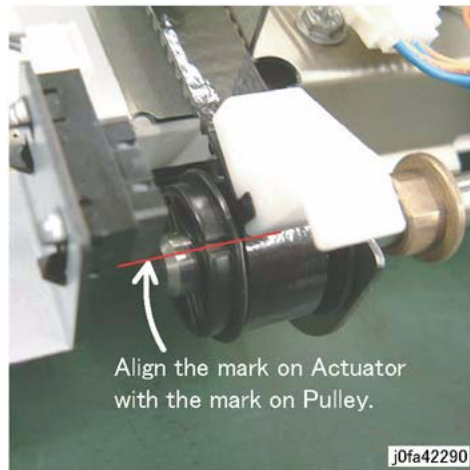

Figure 5 Align Eject Belt
2. Install and align the Eject Belt with marks on the Pulleys (Figure 5) (Figure 6):